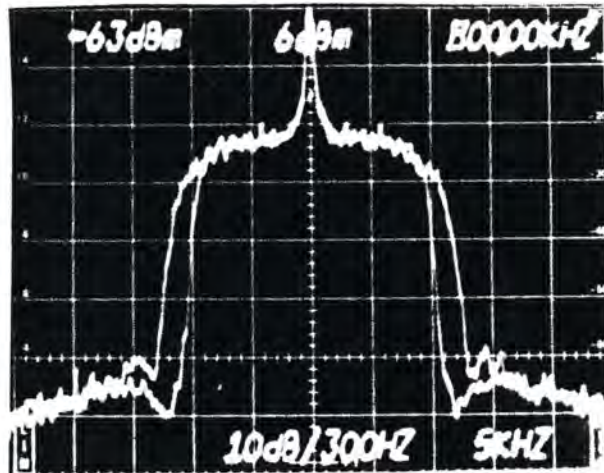

FIGURE 3-1 TYPICAL TRANSMITTED SPECTRUM COMPARISON (9.5/11 kHz Bandwidth Selection, 15 minute peak-store display; V:10 dB/div, H: 5 kHz/div., 300 Hz resolution)
3.31 This switch selects the cutoff frequency of the internal low-pass filter. In the **STD** (out) position a 9.5 kHz filter characteristic is enabled, corresponding to the NRSC stopband specification. In the **11 kHz** position (in), the PMC does not conform to the NRSC stopband specification. See Figure 3-1 for a typical transmitted spectrum comparison between the two filter selections when used with a laboratory transmitter.